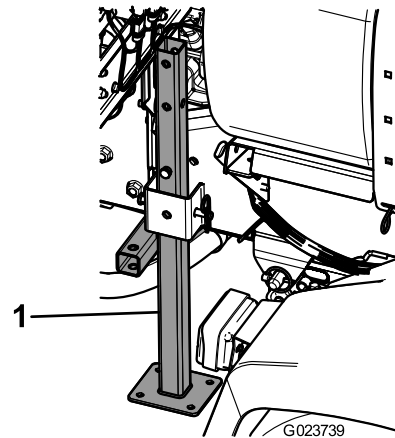

Figure 51
3. Insert the rear jack stands from the bottom, up into the frame, near the rear tie-down points (Figure 51).